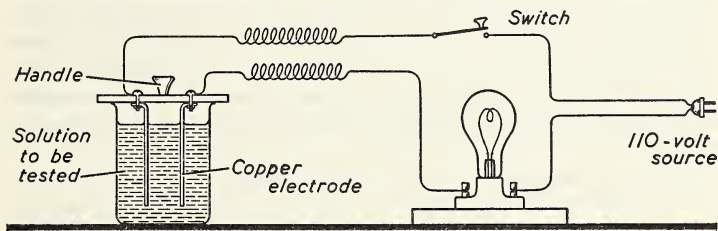

Fig. 54. Testing the conductivity of a solution.
1. Fit two copper electrodes to a piece of Bakelite or other insulating material in such a way that connecting wires may be attached which will lead to a switch, a lamp, (a non-frosted glass bulb showing the filament if possible), and a source of electricity, as shown in Figure 54.